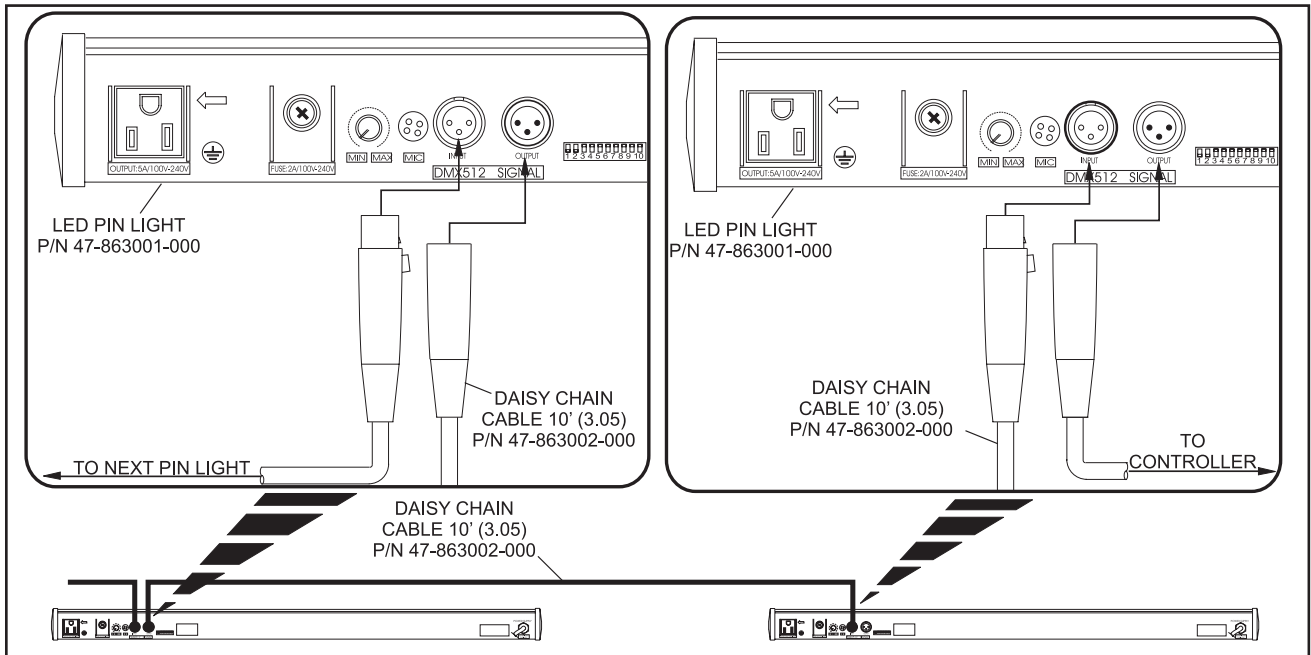

Figure 13
- Using a 10ft/3m cable, connect the first light to the second light, the second light to the third light, etc., until all the lights are chained together. Refer to *Figure 13*